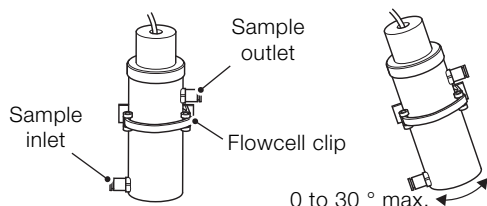

Fig. 4.2 Maximum vertical offset (for air in sample conditions)
- a suitable wall / panel mounting location for the flowcell clip – see Fig. 4.2
**i IMPORTANT (NOTE)** The flowcell (clip) can be tilted up to 30 ° from vertical to compensate for air in sample – see Fig. 4.2.
1. Secure flowcell clip (A) to the wall / panel using an M8 fixing (not supplied / illustrated) of suitable length. Refer to Fig. 4.2 for clip alignment.
2. Fit flowcell (B) to clip (A) and lock clip arm (C) around groove on flowcell body (B).
3. Cut appropriate lengths of inlet and outlet sample tubing (12 mm OD x 9.5 mm ID) and connect to inlet push-fit connector (D) and sample outlet (drain) push-fit connector (E).
**i IMPORTANT (NOTE)** If necessary, inlet connector (D) can be swapped with bottom plug (F), depending on sample.
5. Unscrew lock ring (G) and remove flowcell cap (H), gasket (J) and O-ring (I).
6. Feed the probe cable (K) through gasket (J) and flowcell cap (H) and screw probe (L) onto the threaded boss in flowcell cap (H).